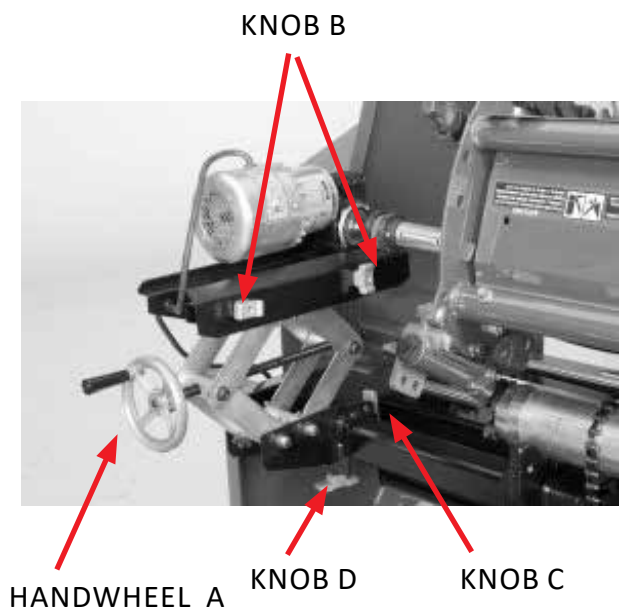

FIG. 60
Before positioning the spin unit let us familiarize ourselves with the available adjustments and coupler/drive assemblies. See FIG. 60 and 61
2. Now slide the spin drive unit approximately 7" [18 cm] from the reel drive coupling point and securely fasten to the tooling bar tightening the locking knob. (Knob C and D) See Fig 60.